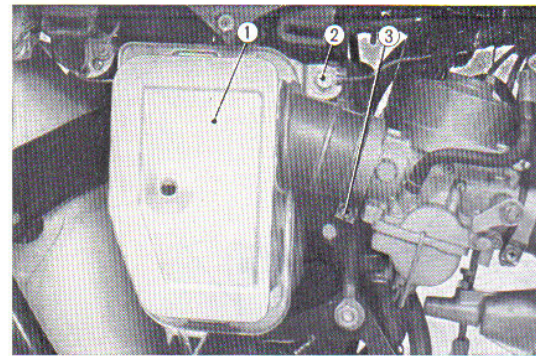

Fig. 4.57 Removing the air cleaner
① Check this point
3. Air cleaner element can be separated from the frame by removing the air cleaner connecting tube clamp and the air cleaner mounting bolt. (Fig. 4.57)